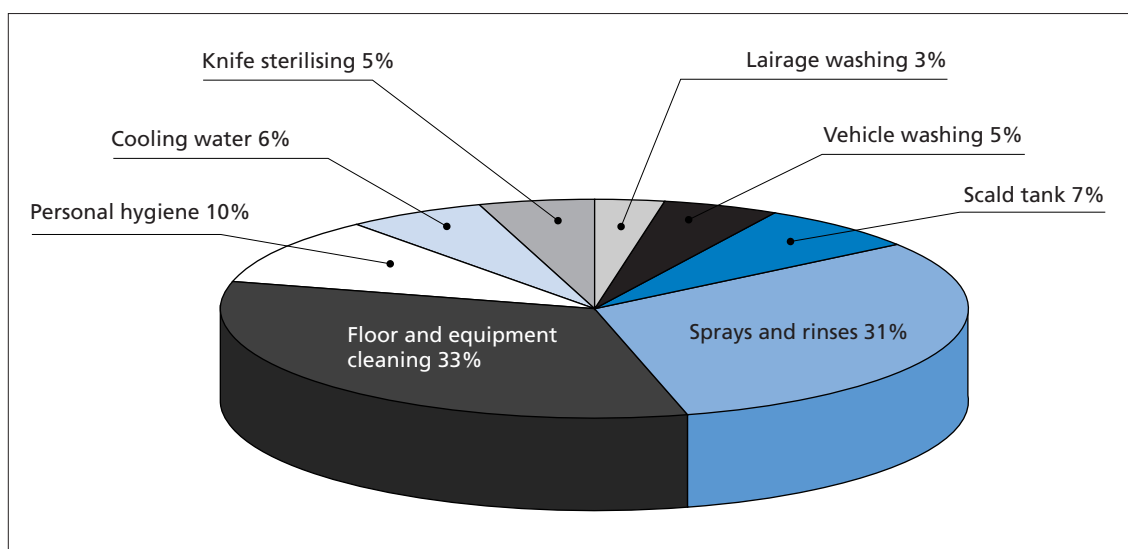
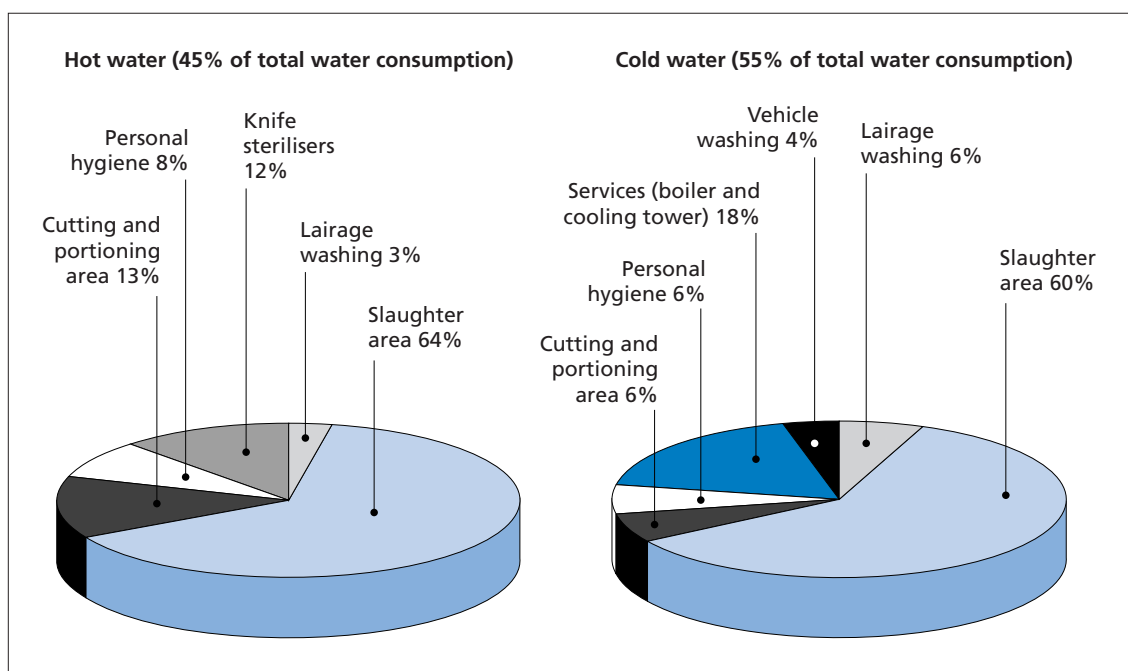

Fig 1 Breakdown of water use by different process areas at a large pig abattoir
Fig 2 Hot water and cold water consumption for different process areas at a large pig abattoir
- Compare your use to a typical breakdown for different process areas. Fig 1 presents a breakdown measured at a large pig abattoir.
Fig 2 shows a breakdown of hot and cold water use at the pig abattoir featured in Fig 1.
Having produced a breakdown of water use (see Fig 1), the first task at a large pig abattoir was to draw a water distribution map to show where water was used at the site. The map was used to identify where to fit meters and whether any pipework modifications were necessary to enable each area's water use to be measured individually.
About 45% of the water was heated to 60°C. To obtain an accurate picture of water costs, the abattoir found it necessary to measure hot water and cold water use separately (see Fig 2). The distribution map enabled the abattoir to highlight areas for immediate improvement, eg not using hot water to wash down lairage areas.